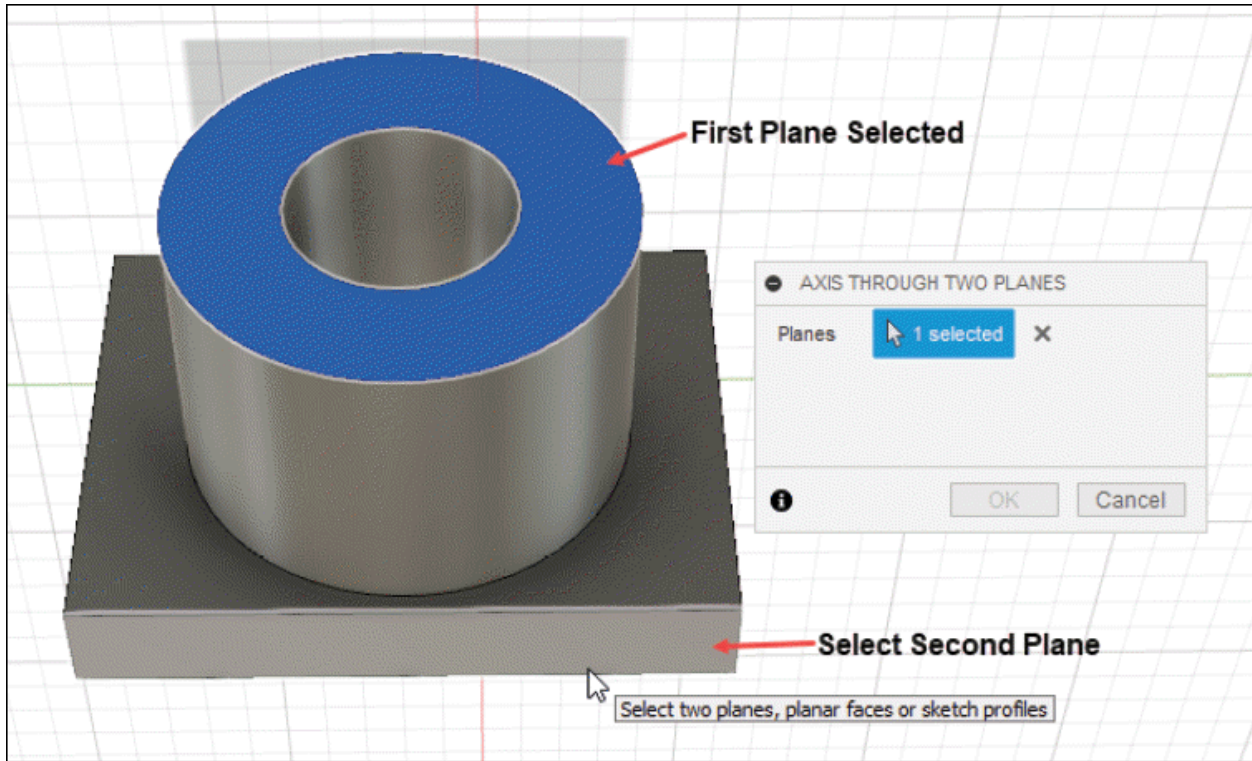

Figure-110. Selection of planes for creating axis
- Planes selection button of **AXIS THROUGH TWO PLANES** dialog box is active by default. You need to select two planes to create an axis; refer to Figure-110.